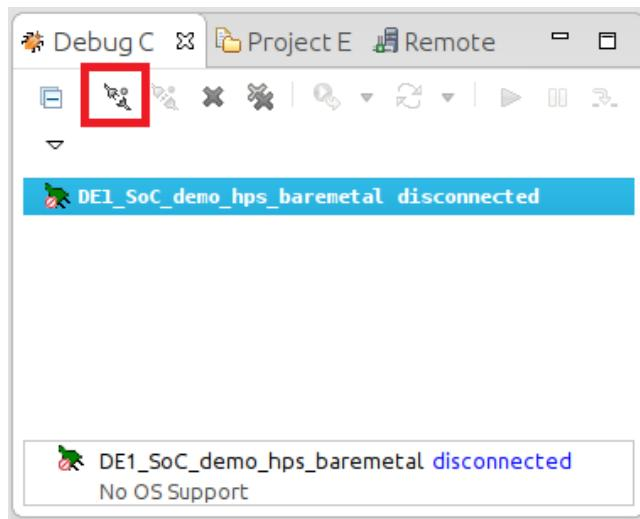

Figure 12-14. Debug Control View
21. In the “Debug Control” view, click on the “DE1_SoC_demo_hps_baremetal” entry, then click on the “Connect to Target” button, as shown on Figure 12-14. Our debug script will load and execute the preloader, then it will load and wait at our application’s “main()” function.